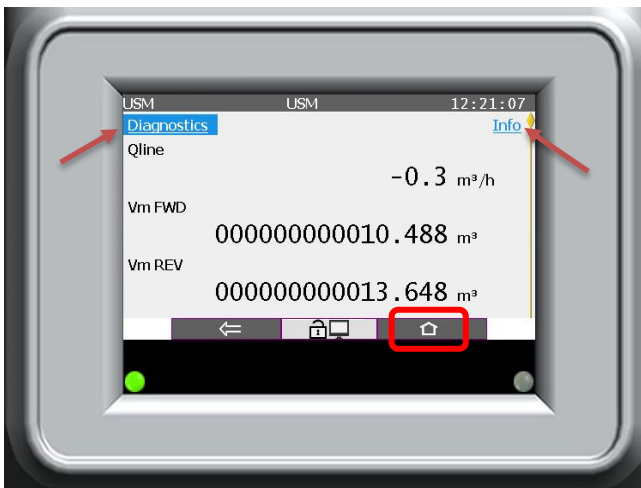

Figure 7-3: Start Display
The start display is shown below in Figure 7-3 and displays the following values:
Along the top of the start display page you will see the sub-menus **Diagnostics** and **Info** marked with red arrows in Figure 7-3. You must scroll to the top of the page to view or select these sub-menus. For more information on Diagnostics, as well as the two submenus from this screen,
Pressing the **Home** button from the **Start Display** (as seen in Figure 7-3) will bring you to a screen as depicted below in Figure 7-4.
- ▶ From the **Start Display** screen, scroll to the top of the page and highlight the **Diagnostics** field in the top left-hand corner, see Figure 7-3